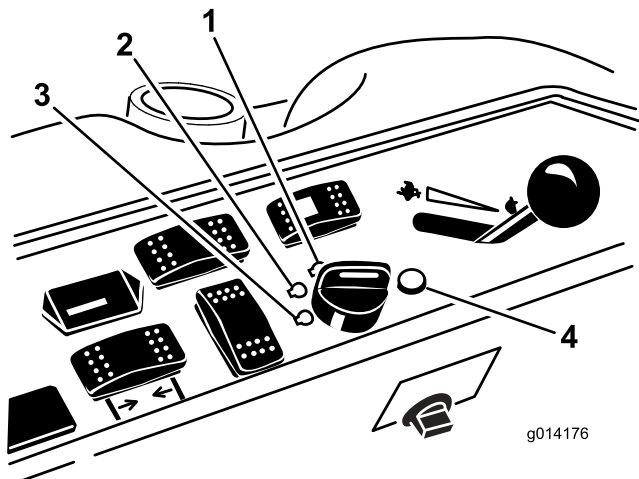

Figure 22
6. Turn the ignition key clockwise to the RUN position (Figure 22).